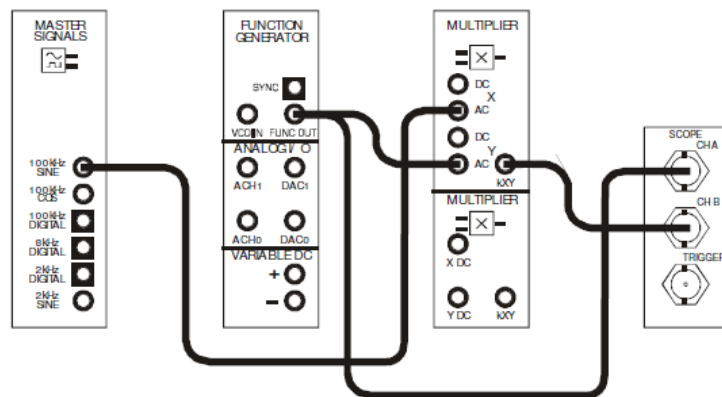

Figure 2
16. Connect the set-up shown in Figure 2 below.